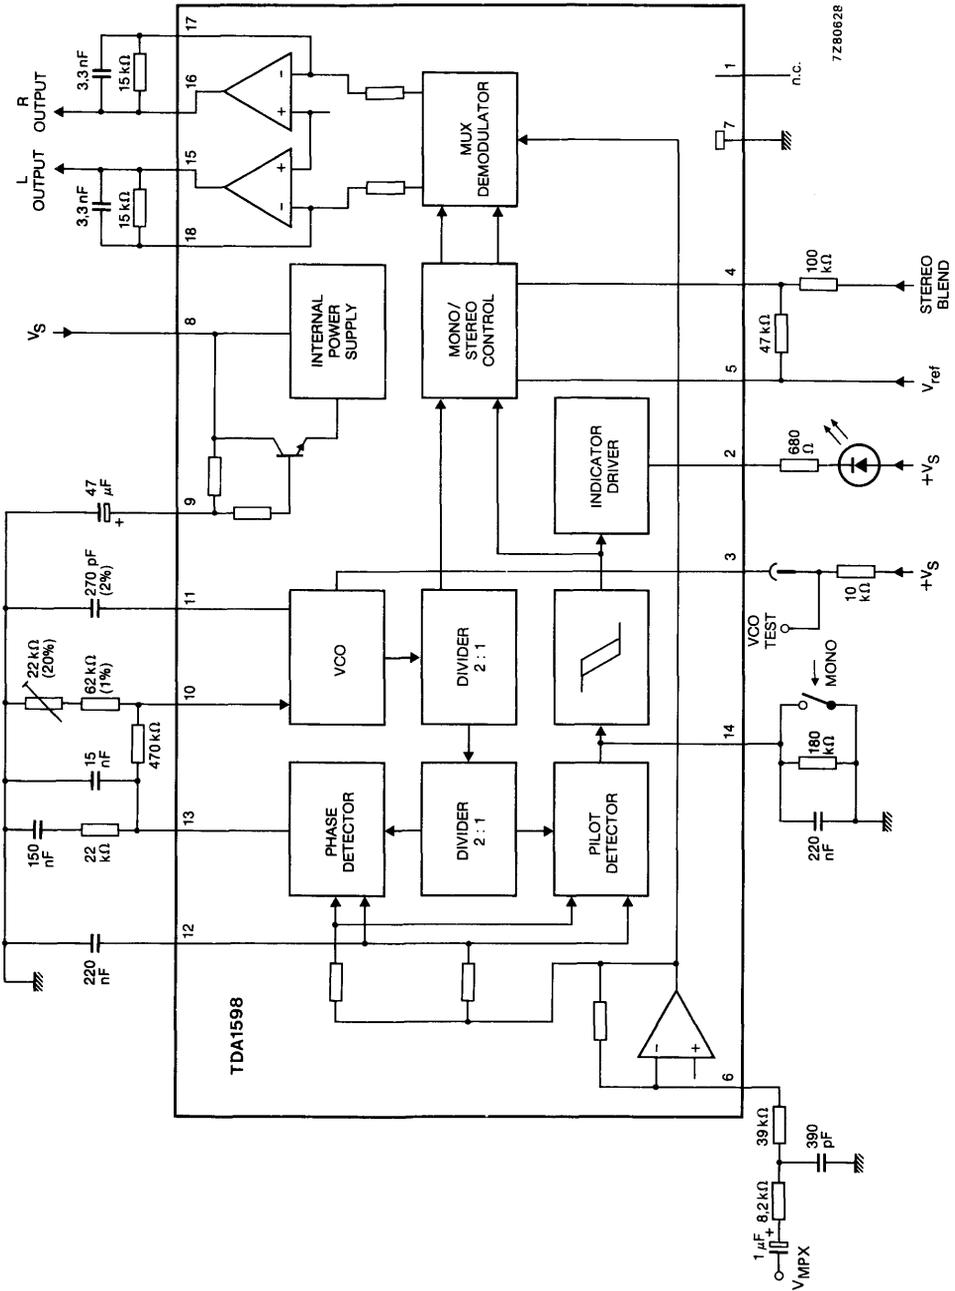

Fig. 1 Block diagram and test circuit.
**CHARACTERISTICS** (measured in Fig. 1)